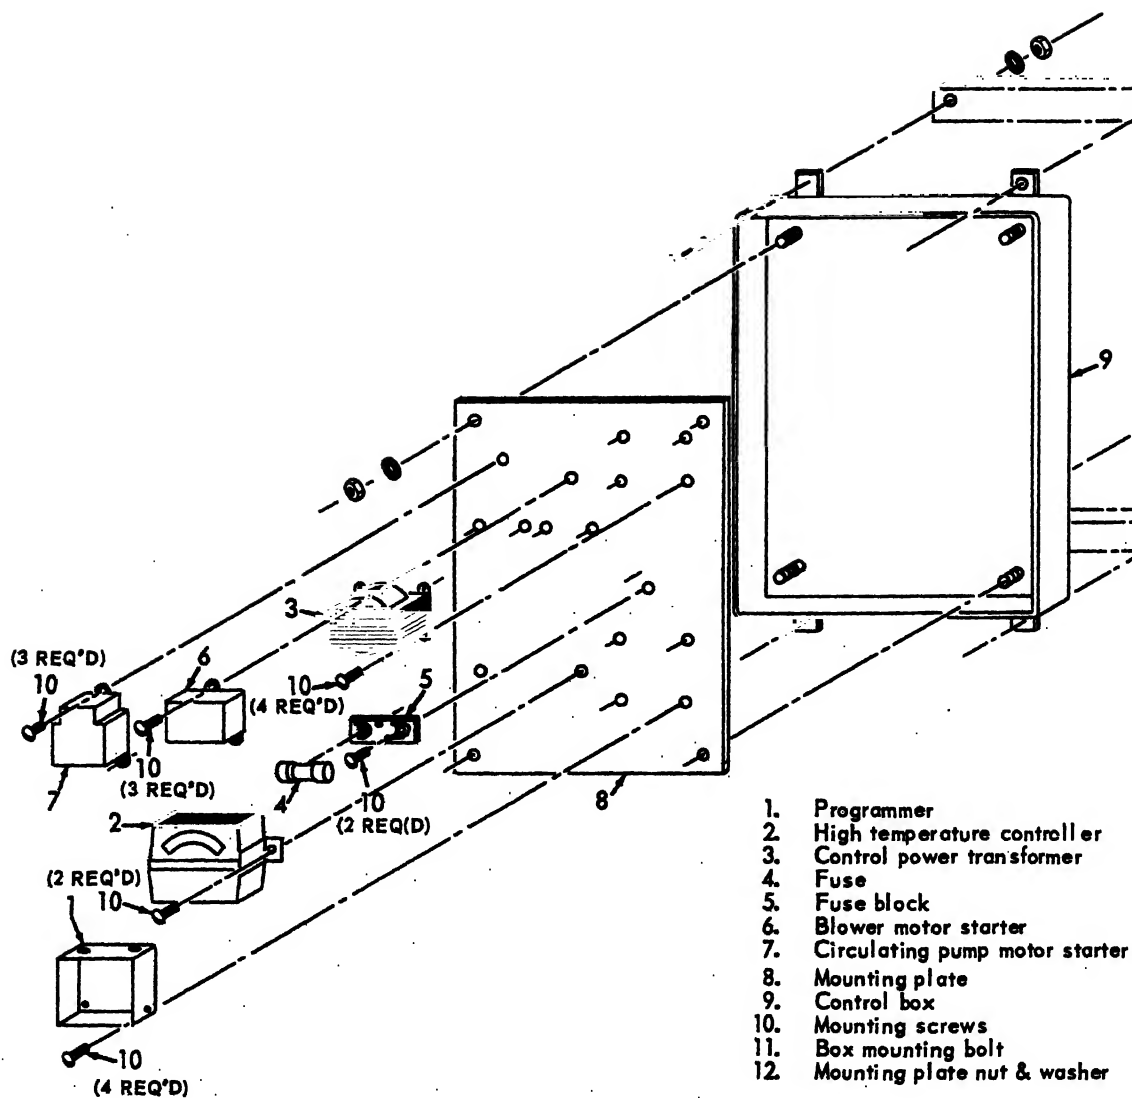

FIGURE 50. CONTROL BOX - DISASSEMBLY AND REASSEMBLY
2. Refer to Fig. 50 and disassemble the control box.